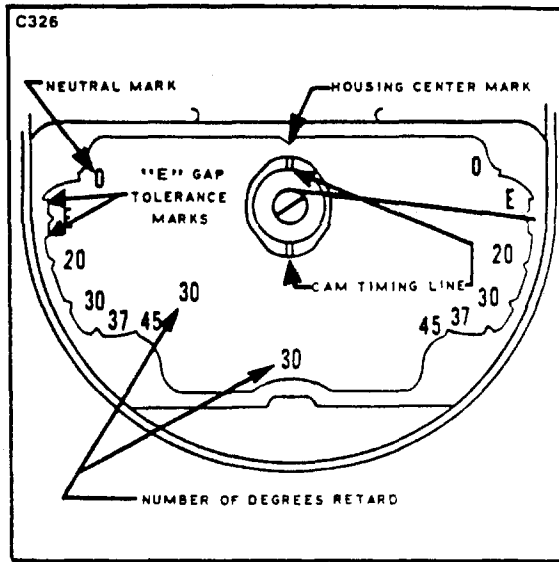

Figure 8-19. Breaker Compartment with Cast Timing Marks
e. If magneto is type which has "cast in" timing marks (-200 series, see Figure 8-19), main breaker may be adjusted with magneto on engine as follows: turn engine crankshaft until notch in cam is aligned with mark at top of breaker compartment. Set wire pointer in center of the "E" gap boss at the side of breaker compartment. Connect timing light across main breaker. Adjust main breaker contacts to open at this point. Turn engine crankshaft until cam follower is on the high point of the cam lobe. Measure contact clearance. It must be $.018 \pm .006$. If necessary, readjust breaker and recheck to be sure that contacts will open within "E" gap tolerance $\pm 4 \text{ degrees}$. (Width of "E" gap boss.)